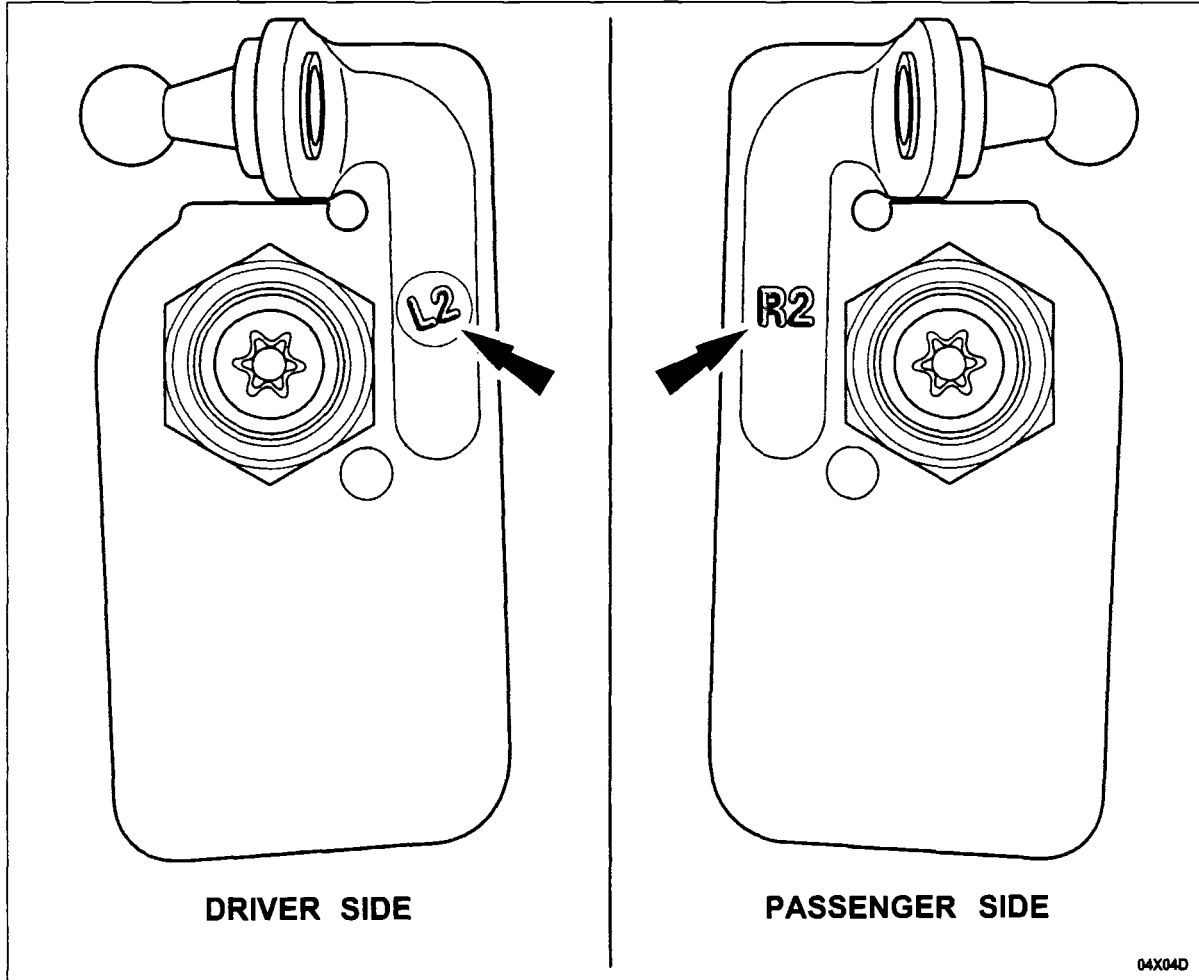

FIGURE 4
**NOTE:** The *new* brackets are marked with a stamping, L or R followed by a number. They are **NOT** interchangeable. The L is for the driver side of the glass and has left-hand threads. The R is for the passenger side of the glass and has right-hand threads. The number can be ignored. See Figure 4.